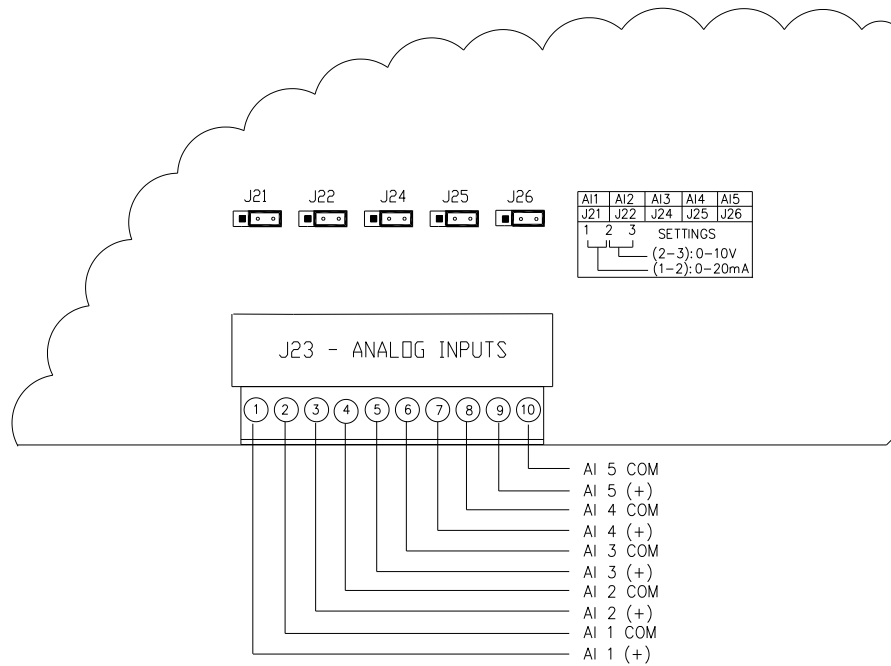

Figure 65: XRCG4 board- analog input calibration points
The Totalflow XRCG4 comes standard with five analog inputs on the XRCG4 board (see Figure 65: *XRCG4 board- analog input calibration points*). As the user enters calibration, the XRCG4 enters the hold mode and displays the current values.
2. Connect an accurate power source capable of 1 - 5 Volts or 4 – 20 mA to the AI terminals to be calibrated (see Figure 65). Make sure the jumpers on the termination panel are in the 4 – 20 mA position, if a 4 -20 mA source is used. This puts a 250 Ohm resistor across the terminals to convert the 4 – 20 mA to 1 - 5 Volts.